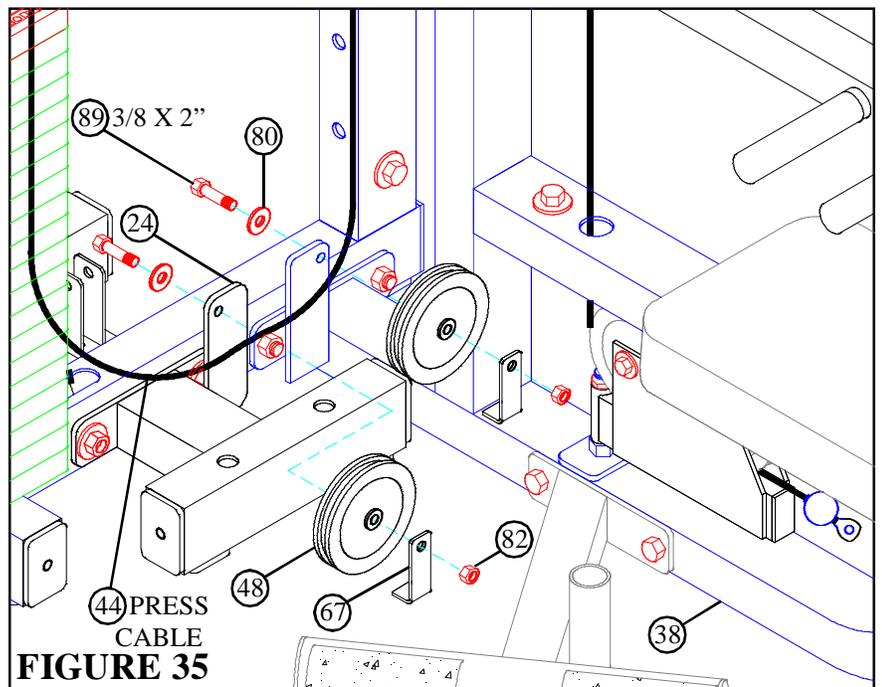

FIGURE 35
- **SECURE** the PRESS CABLE (44) and two 4-1/2" PULLEYS (48) to the vertical flats on the PRESS BASE (38) and on the PRESS WEIGHT STACK BASE (24) using two 3/8 X 2" BOLTS (89), two 2-7/8" CABLE CLIPS (67), two 3/8" WASHERS (80), and two 3/8" LOCK NUTS (82) as shown in FIGURE 35. (**NOTE: The PRESS CABLE (44) should be routed underneath the short leg of the CABLE CLIP. Also, the CABLE CLIPS should be positioned straight down to function properly.**)